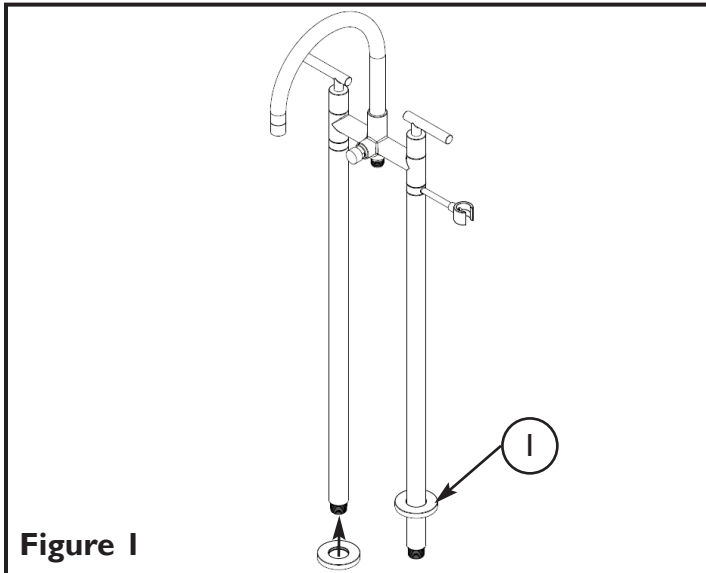

Figure 1
1. Slide a FLANGE (1) onto each of the tub filler risers. See **Figure 1**.